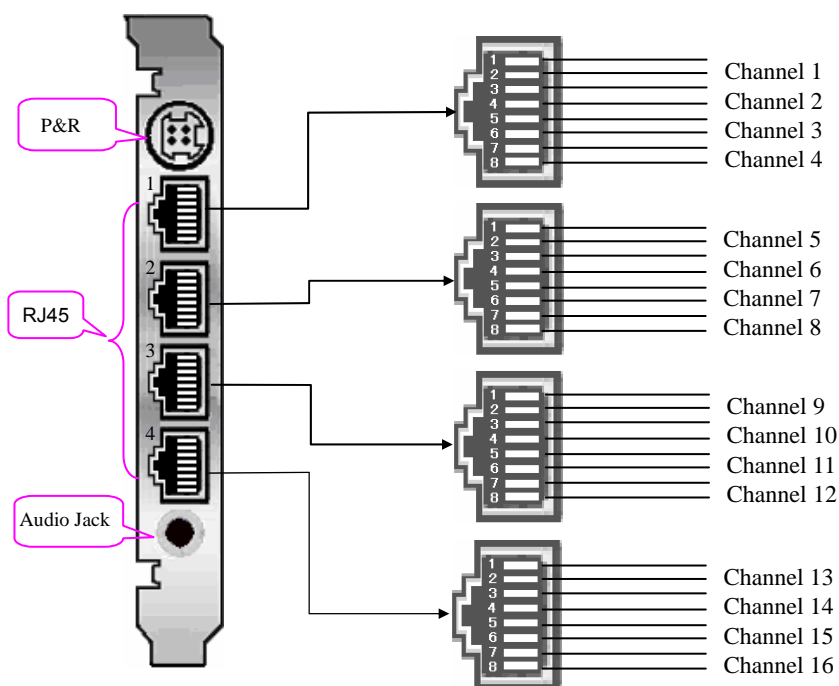

Figure 2-3 Left Side View
Take the first RJ45 jack on the board (Fig 2-3) for example, the matching relationship among the on-board channel numbers, the 8 pins of the RJ45 jack and the 4-way hub is shown in Table 2-1 below.
- ① The matching relationship for the other three on-board RJ45 jacks and their corresponding pins and channel numbers may be deduced by analogy.
- ② This 4-way hub is available by purchase from our company. If you prefer to construct lines by yourself, we suggest you follow Figure 2-3 and the matching relationship shown in Table 2-1.